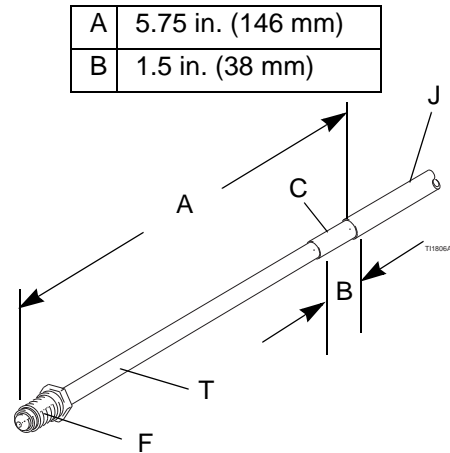

FIG. 6. Waterborne Hose Dimensions
2. For the waterborne fluid hose to fit properly, it must be stripped and assembled to the dimensions shown in FIGURE 6. Apply dielectric grease to the inner tube (T) of the hose. Slide the fitting (F) onto the tub (T). Press the barbed fitting (G) into the tube until its shoulder bottoms on the tube. A new Graco